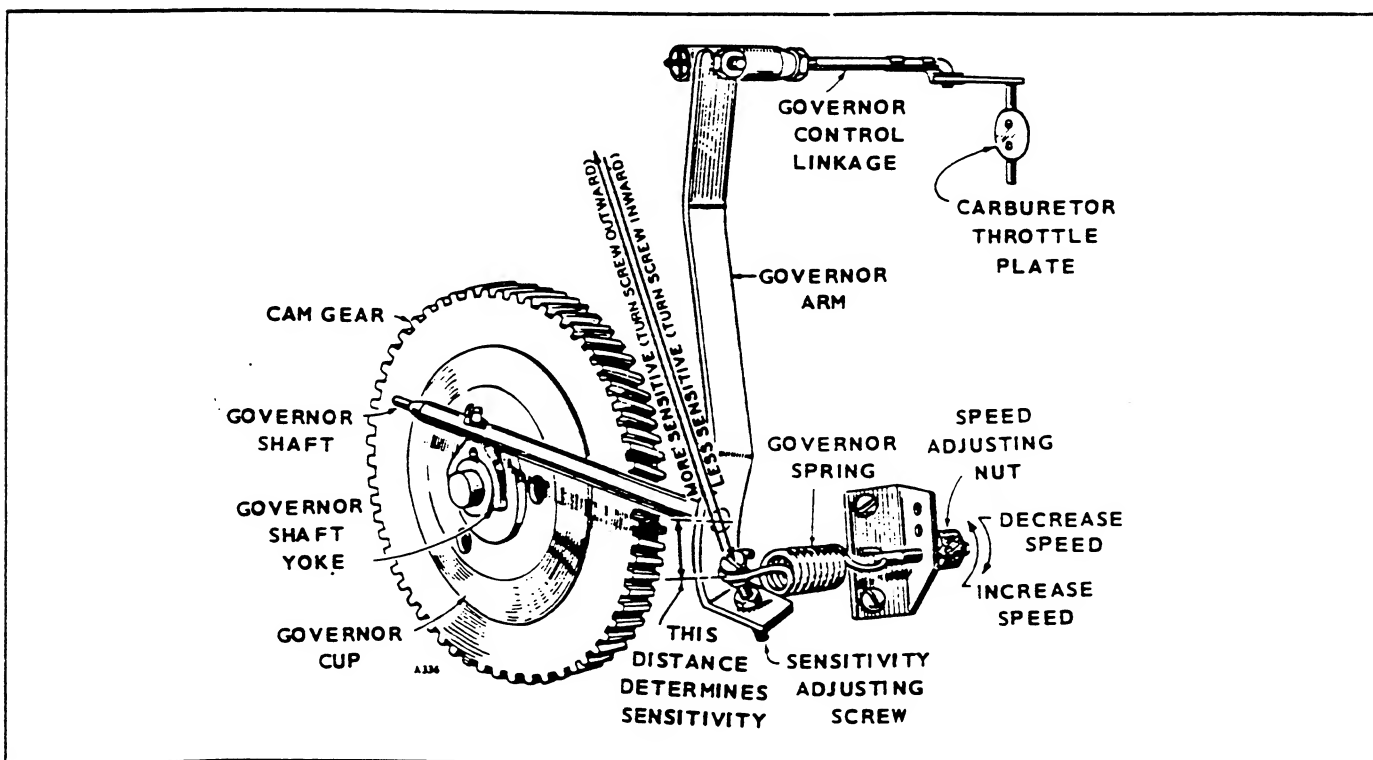

FIG. 1
**Adjusting the Governor:** Refer to Fig. 1. Connect a voltmeter across the output of the generator. With no electrical load connected, start the plant and adjust the speed adjusting nut to give a voltmeter reading of approximately 126-volts maximum for a 120-volt plant. Apply a full rated electrical load and again observe the voltage reading, which should be approximately 110-volts. For 240-volt plants, 252-volts at no-load is maximum and 220-volts full-load is minimum. The correct sensitivity adjustment gives the closest regulation without causing a hunting condition. If the voltage spread between no-load and full load conditions is too great, move the end of the governor spring closer to the governor shaft. Test the governor action at various load conditions. If voltage regulation is good, but there is a tendency toward hunting at times, the sensitivity adjustment is too close or sharp and the sensitivity stud must be turned inward slightly. Any change in the sensitivity adjustment will require a speed re-adjustment.